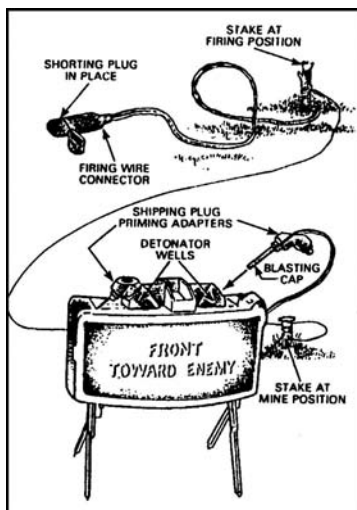

Figure 071-325-4425-11. Arming the mine
- d. Pull the excess wire through the slotted end of the adapter until the top of the blasting cap is firmly seated in the bottom portion of the shipping plug priming adapter (figure 071-325-4425-11).